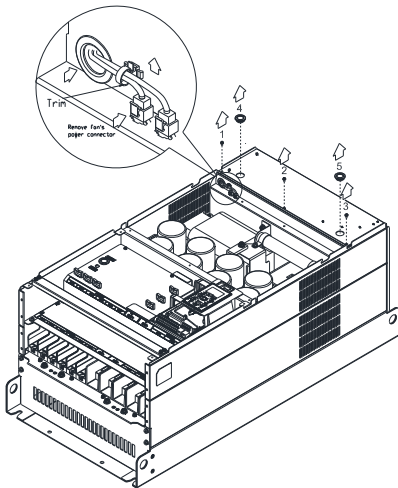

Figure 3
4. Loosen screw 1, 2, 3 and remove the protective ring (as shown in figure 3) Screw torque: 14–16 kg-cm / (12.2–13.9 lb-in.) / (1.4–1.6 Nm)